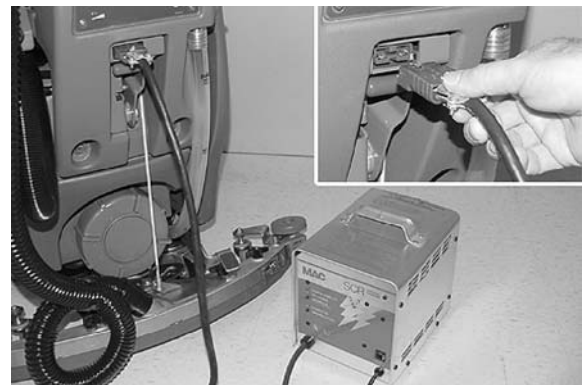

FIG. 36
- Connect the charger's DC cord to the machine's battery receptacle at the rear of the machine (Figure 36).